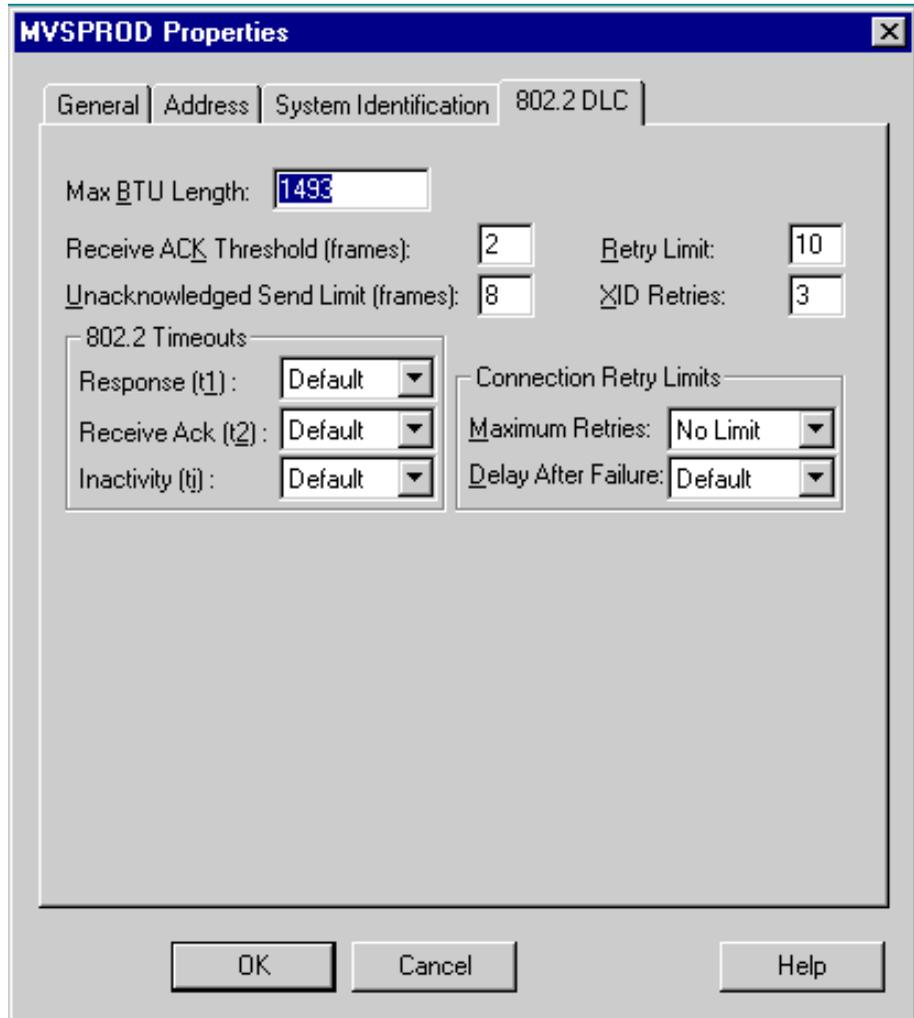

Figure 55. Configuring APPC modes: 802.2 DLC page
- 14 On the 802.2 DLC page, use the same values that are shown in Figure 55.